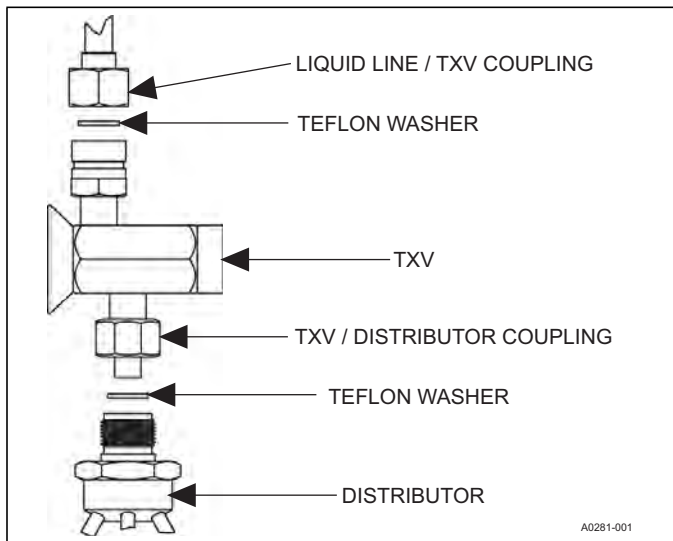

FIGURE 5: TXV Installation
4. Install the thermal expansion valve to the distributor assembly with supplied fittings. Ensure teflon washer is seated in distributor. Hand tighten and turn an additional 1/4 turn to seal. Do not overtighten fittings. See Figure 5.